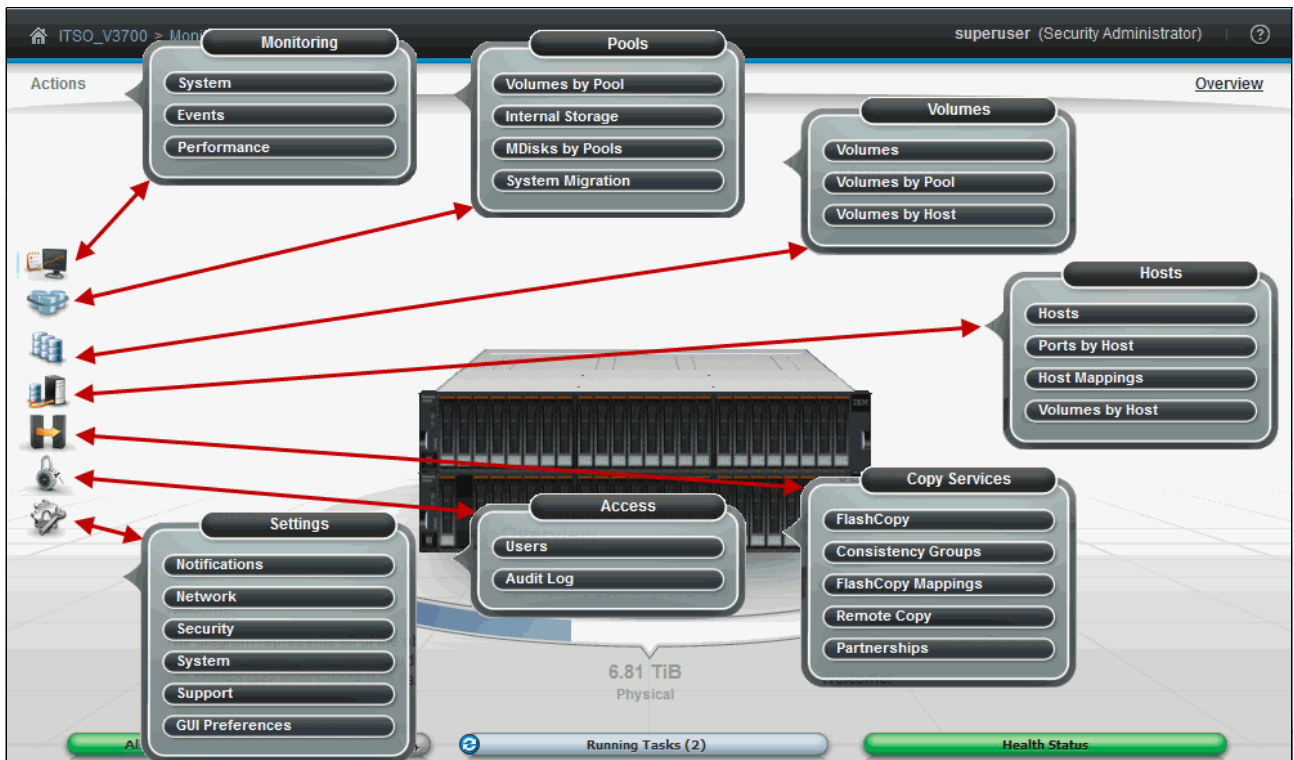

Figure 3-8 Options that are listed under Function Icons section
3. Figure 3-8 shows all of the menus with options under the list of function icons.